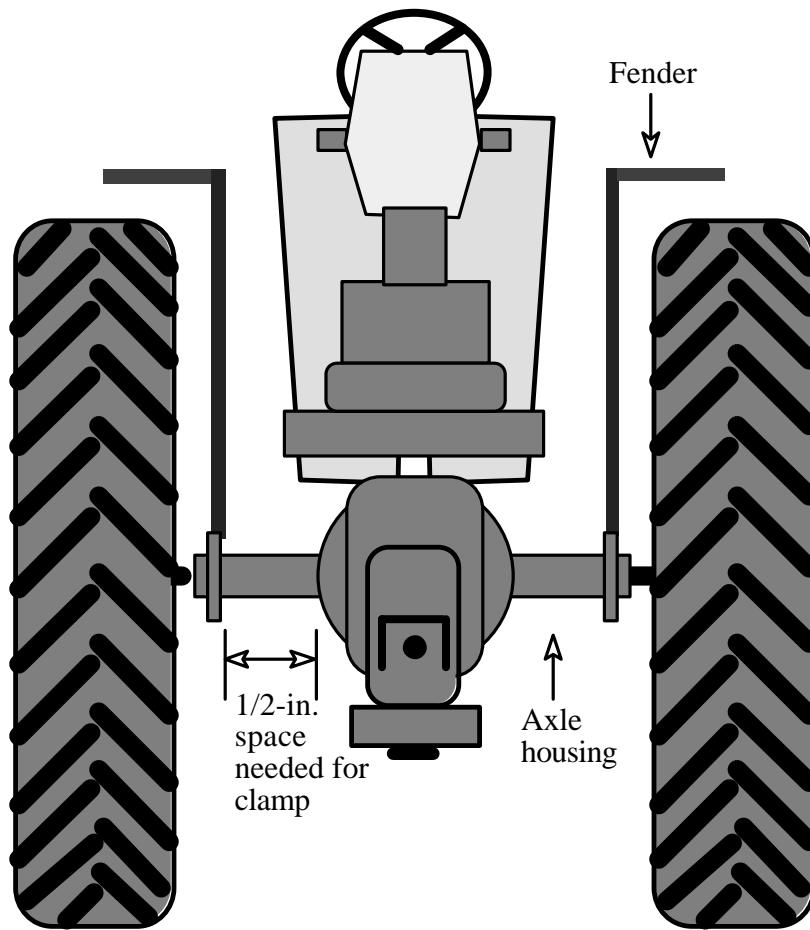
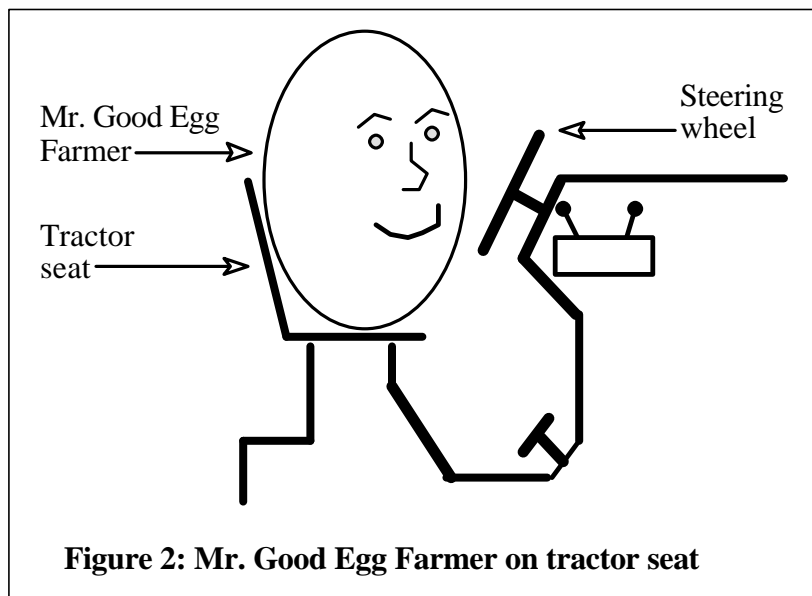

Figure 1: Back view of model tractor
Figure 2: Mr. Good Egg Farmer on tractor seat
These directions explain how to construct and fit a ROPS to a model tractor. The step-by-step list of instructions that starts on this page is accompanied by a series of diagrams numbered Figure 1 through Figure 9. The diagrams begin on page 38.
1. Obtain a 1/16th-scale model farm tractor without a ROPS. These are available from tractor equipment dealers and farm supply stores for about \$30. (Many farm safety instructors already have model tractors.) To avoid conveying false information to the participants, make sure the real tractor that the model represents has a ROPS retrofit package available. Also make sure the scale model tractor you purchase has sufficient space on the rear axle between the tractor fenders and the tractor body to fit a small clamp (see Figures 1 and 3). Check to make sure that the space between the seat back and the steering wheel is large enough to seat a medium-sized hen's egg (see Figure 2).